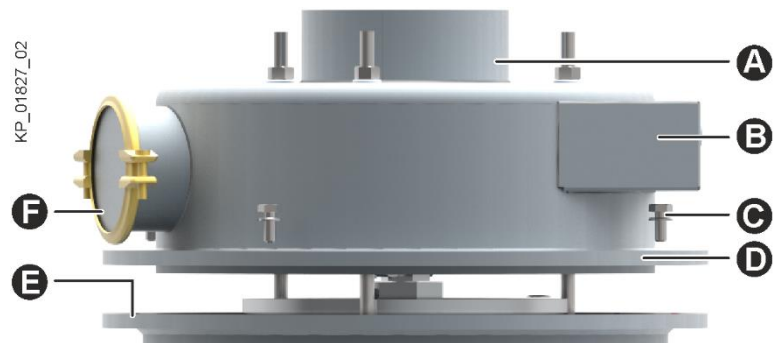

Fig. 44: Overview of the dust hood
- Loosen the bent-lever closure (Fig. 44/A).
- If available: Remove the aspiration system (Fig. 44/F).
- Uncouple the connection of the hydraulic unit and the central lubrication system (Fig. 44/B).
- Reach through the product inlet (Fig. 44/A) and pull the hoses in the machine interior.
- Loosen the screws (Fig. 44/C).
- Lift off the dust hood (Fig. 44/D).